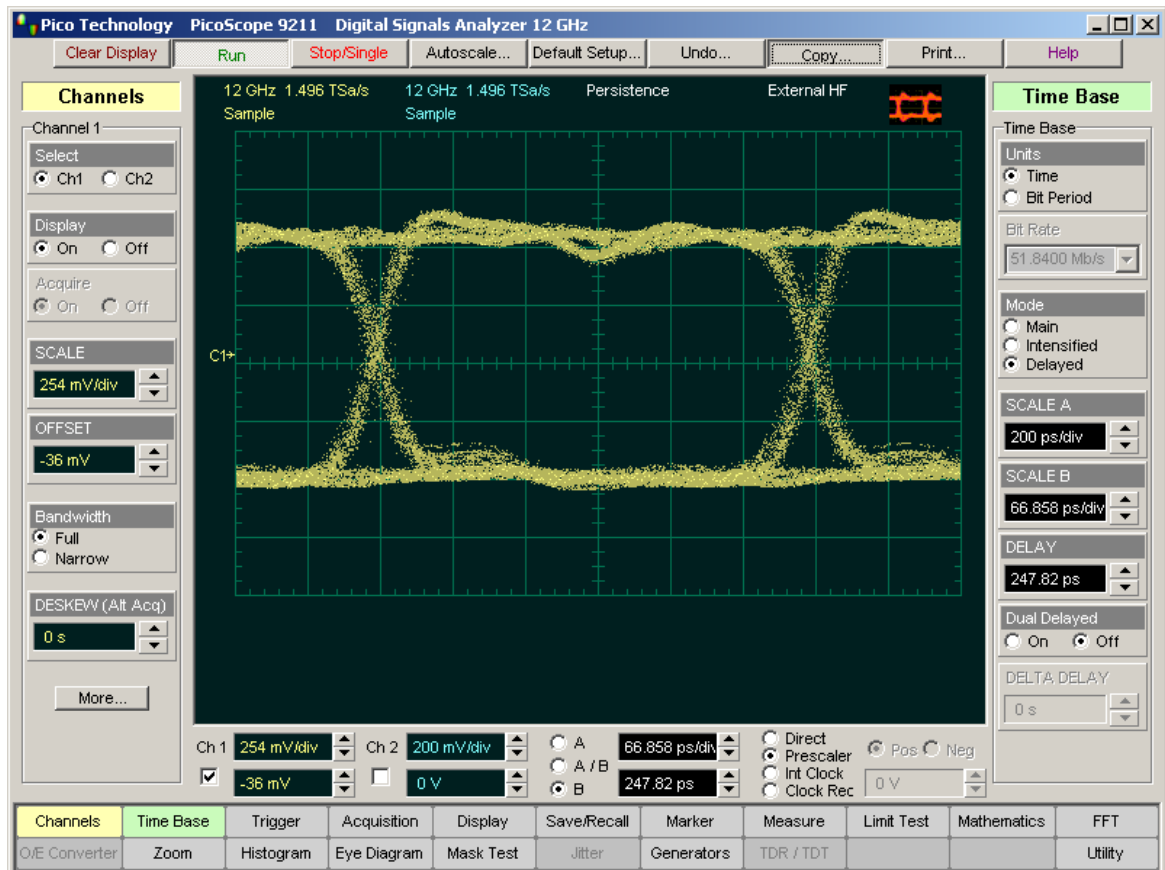

Figure 1
1. Connect the equipment and get a picture of an eye diagram (see Figure 1).